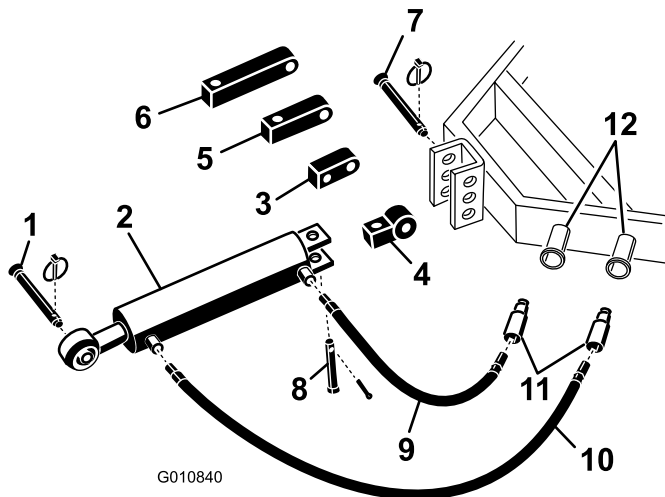

Figure 5
- Secure the connecting link end of the hydraulic top link to the tractor with the pins supplied with the tractor (Figure 5). Position the hydraulic top link so the rod end is toward the aerator. The cylinder ports should be positioned toward the tractor's auxiliary power hydraulics.
Note: If the hydraulic cylinder must be positioned with the ports facing upward, use the rotational block instead of the standard mounting block to reposition the cylinder (Figure 5). A 90 degree hydraulic fitting may be used instead of the rotational block (fittings are not supplied).
(Figure 5). Remove the connecting link from the cylinder.
- B. Install the rotational block to the cylinder with the pins previously removed (Figure 5).
2. Connect the 3-1/2 foot long hydraulic hose to the hydraulic top link port which is closest to the aerator Figure 5. Apply Teflon tape or pipe thread sealant to the hose threads to prevent any leaks.
3. Connect the 2-1/2 foot long hydraulic hose to the hydraulic top link port which is closest to the tractor (Figure 5). Apply Teflon tape or pipe thread sealant to the hose threads to prevent any leaks.
If the hydraulic cylinder does not reach the aerator mounting bracket, use an extension block instead of the standard mounting block to connect the cylinder to the tractor (Figure 5).
- A. Remove the cotter pin and pin securing the standard connecting link to the cylinder (Figure 5). Remove the connecting link from the cylinder.
- B. Install the required length extension block to the cylinder with the pins previously removed (Figure 5).